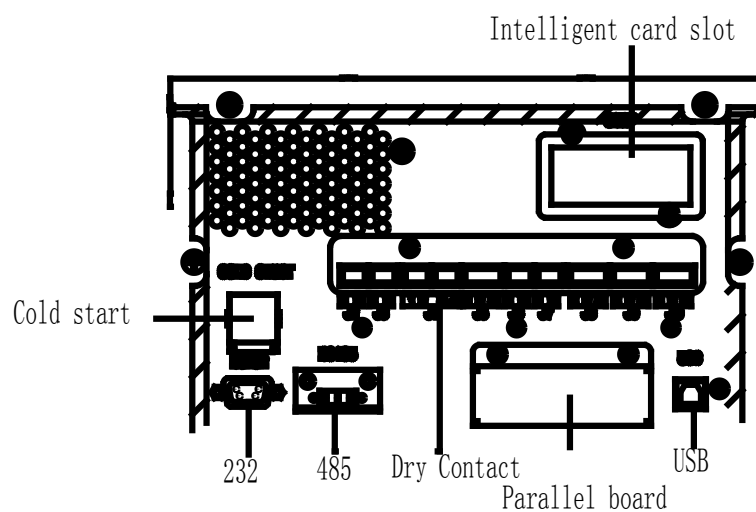

Fig.3-13 Dry contact & communication interface
2. Open the back door of the cabinet, remove the plastic cover. The input and output terminal, battery terminal and protective earth terminal are shown in Fig.3-12 & Fig 3.13.
Fig.3-13 connections terminals for 40kVA
The front panel of the bypass module provides dry contact interface (J2-J11) and communication interface (RS232, RS485, SNMP, Intelligent card interface and USB port), as it is shown in Fig.3-13.